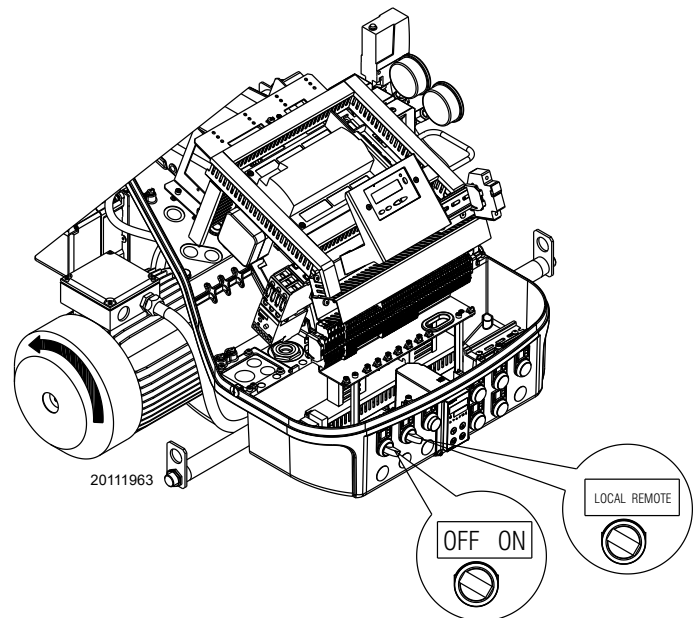

Fig. 37
Turn the switch to position "ON" (Fig. 37) and turn the switch to position "LOCAL" for "local operation", or "REMOTE" for "remote operation".
When the burner starts, check the direction of the motor rotation, as indicated in Fig. 37.
As the burner is not fitted with a device to check the sequence of the phases, the motor rotation may be incorrect. As soon as the burner starts up, go in front of the cooling fan of the fan motor and check it is rotating anticlockwise (Fig. 37).
- place the switch of Fig. 37 in position "OFF" and wait for the control box to carry out the switch off phase;